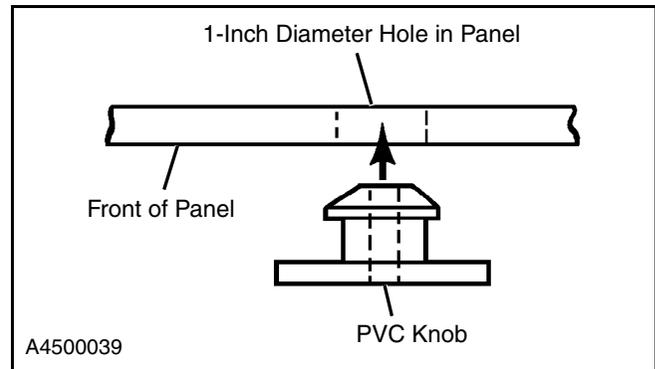

Figure 34
4. Drill 1-inch diameter holes in the panels. Use a hole saw or wood spade bit. The holes should be drilled from the front of the door. (See Figure 34.)
5. Insert the small end of the knob(s) into the holes from the front of the door. Press into place. (See Figure 34.)